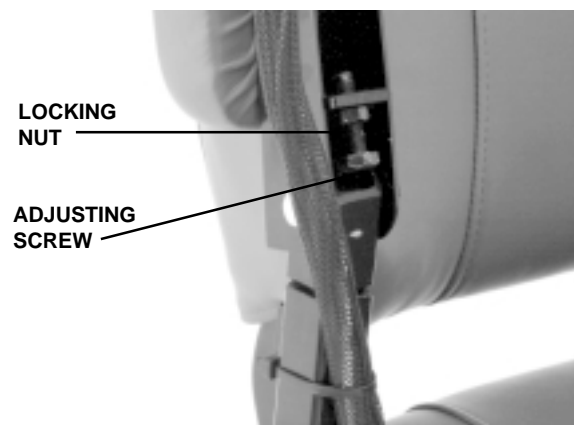

Figure 12. Armrest Angle
2. Use an 11-mm spanner to loosen the locking nut. See figure 12.